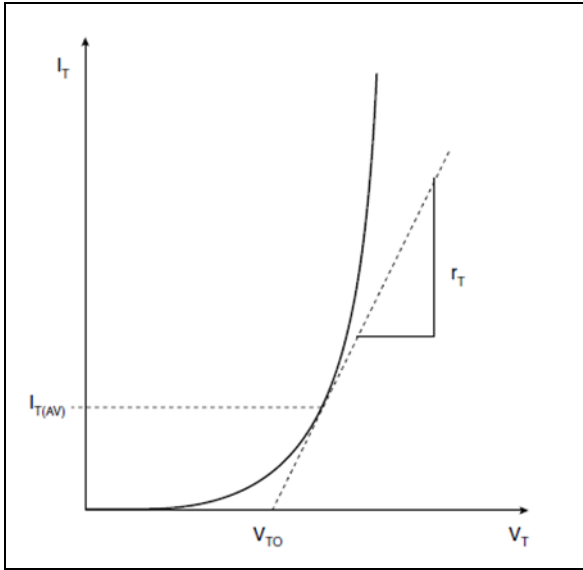

Fig. 1
1. As fig. 1, where the line is a tangent to the V_{TM} vs I_T curve at the average current rating.